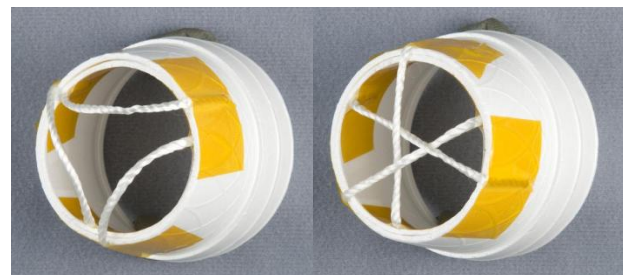

Figure 9. Strings tightening when the outer cup is turned
8. You have now finished the Grappler! When the outer cup is turned it should look like the photos in Figure 9.